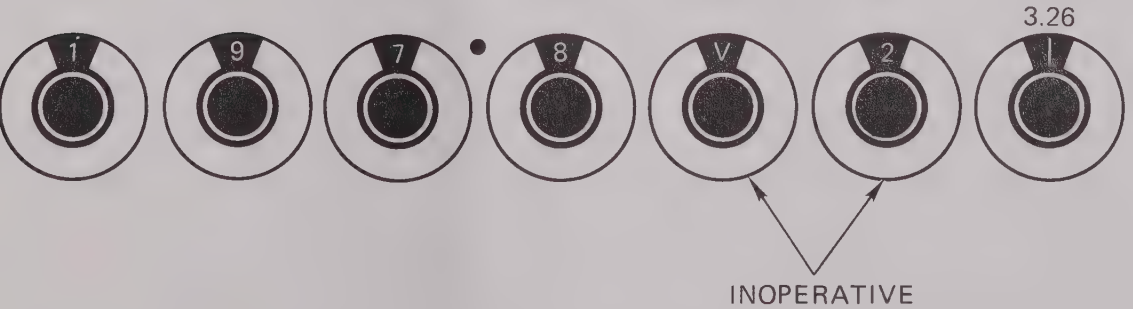

Figure 4-3a. Frequency Controls Setup
- a. For narrowband deviation the decades are set up as in Figure 4-3a. The 0-1KHz control is set to 3.26 to compensate for the fact that the 10KHz and 1KHz controls are inoperative.